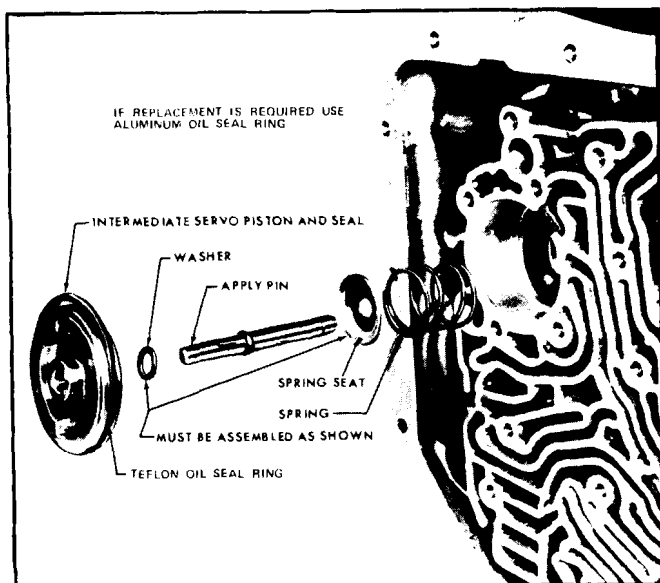

Fig. 7G-157 Exploded View of Intermediate Servo Piston and Pin
3. Install spring, spring seat, washer and the correct band apply pin and intermediate servo piston with its oil seal ring into its case bore (Fig. 7G-157).
1. If removed, install the park pawl into case with its tooth toward center of case. Install park pawl shaft into case bore and through disengaging spring and parking pawl. Install other end of disengaging spring on park pawl and drive a new retaining plug into the case, using a $\frac{3}{8}$ " diameter rod, until the plug is flush to .010" below the face of the case. Stake plug in three (3) places to the case (Fig. 7G-158).
2. Install parking lock bracket and its two (2) bolts, torquing to 29 lb. ft.